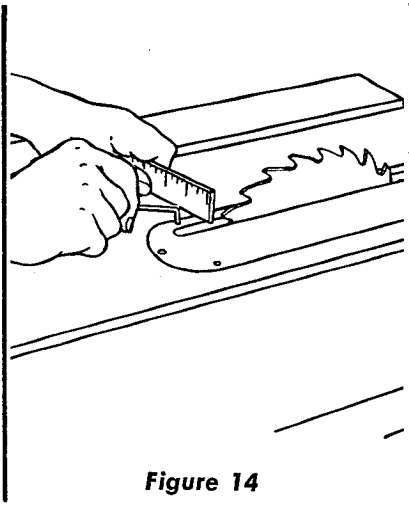

Figure 14
- (a) If an adjustment is necessary, rotate each of the four set screws (or as many as required) with a 3/32 inch hex-"L" wrench until table and insert surfaces are even. (See figure 14.)